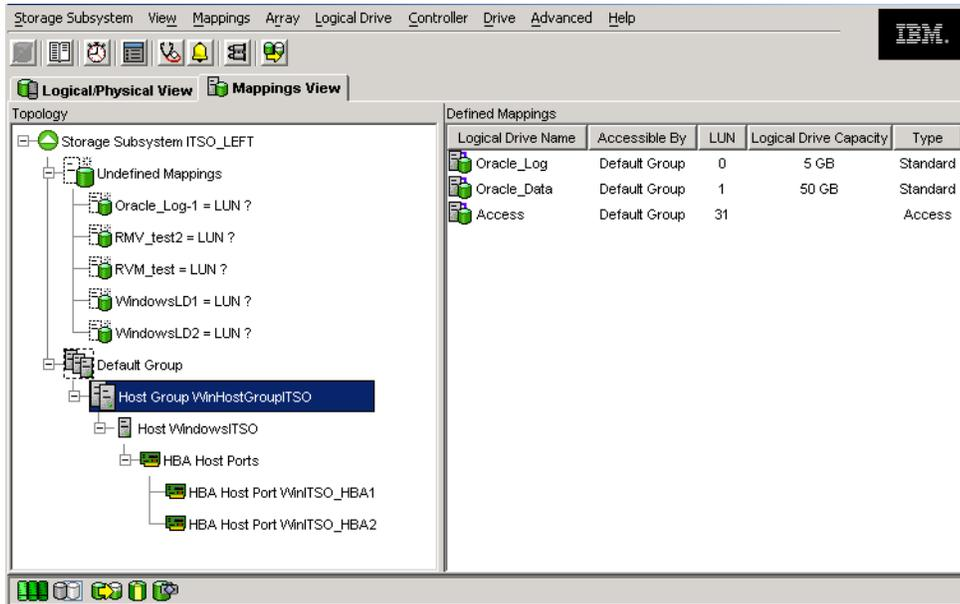

Figure 5-65 New host and host group, placed in the default group
- The new host (and the host group, if it was also defined) is placed in the default group. It will stay there until you actually create a storage partition by assigning the logical drives to that host (or group). Figure 5-65 shows an example.